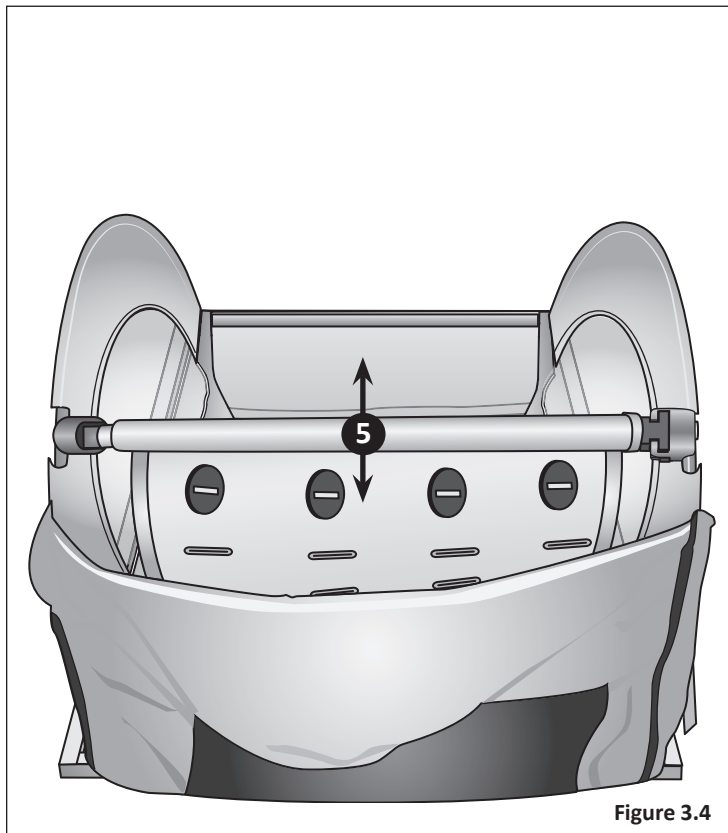

Figure 3.4
- 5 Check the crossbar is locked into place by pulling up and down on it. **Figure 3.4**